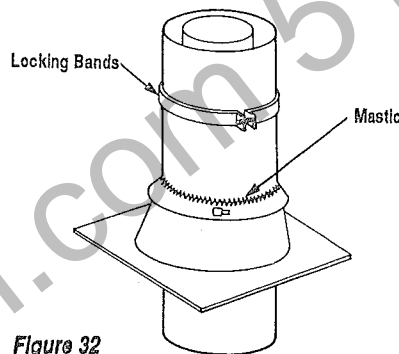

Figure 32
Step 9. Superior locking band, Model 10LB, may be required if the chimney extends too high above the roof flashing. As a general rule, if the chimney extends more than 6' (1.8m) above the roof/flashing, the use of locking bands is advisable to strengthen the chimney joints. Align the locking band at the pipe joint. Locking bands wrap around pipe joints equally covering the joints of both pipe sections. Use nut provided and TIGHTEN snugly. Do not over tighten as this might damage chimney section (Figure 32).